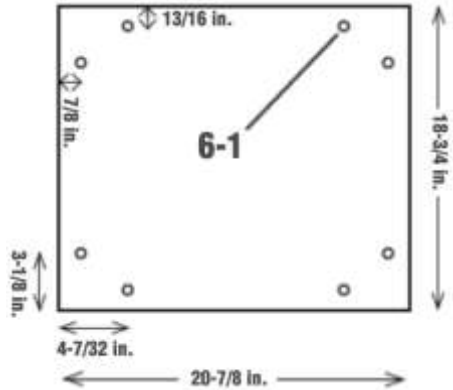

Fig. 6
3. A plywood top with a thickness of $\frac{5}{8}$ or $\frac{3}{4}$ in. (not included) may be needed as an adapter to mount certain tools. See Fig. 6 for approximate dimensions.